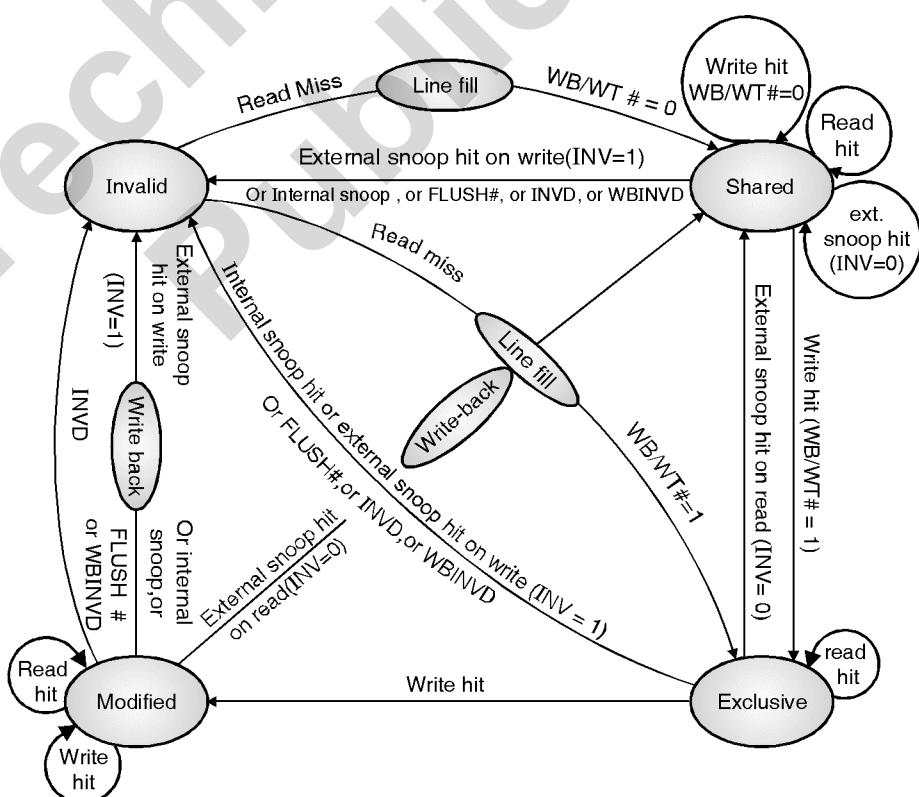

Fig. 11.10.1 : State diagram of MESI transition states as in Pentium's Data cache
- Based on the discussion in the previous sections we can show the state transition diagram of a line in cache as shown in Fig. 11.10.1.